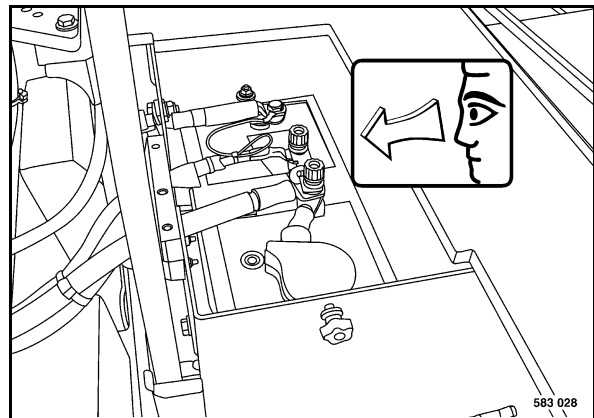

Fig. 144
- Remove the battery (Fig. 144) and clean the battery compartment.